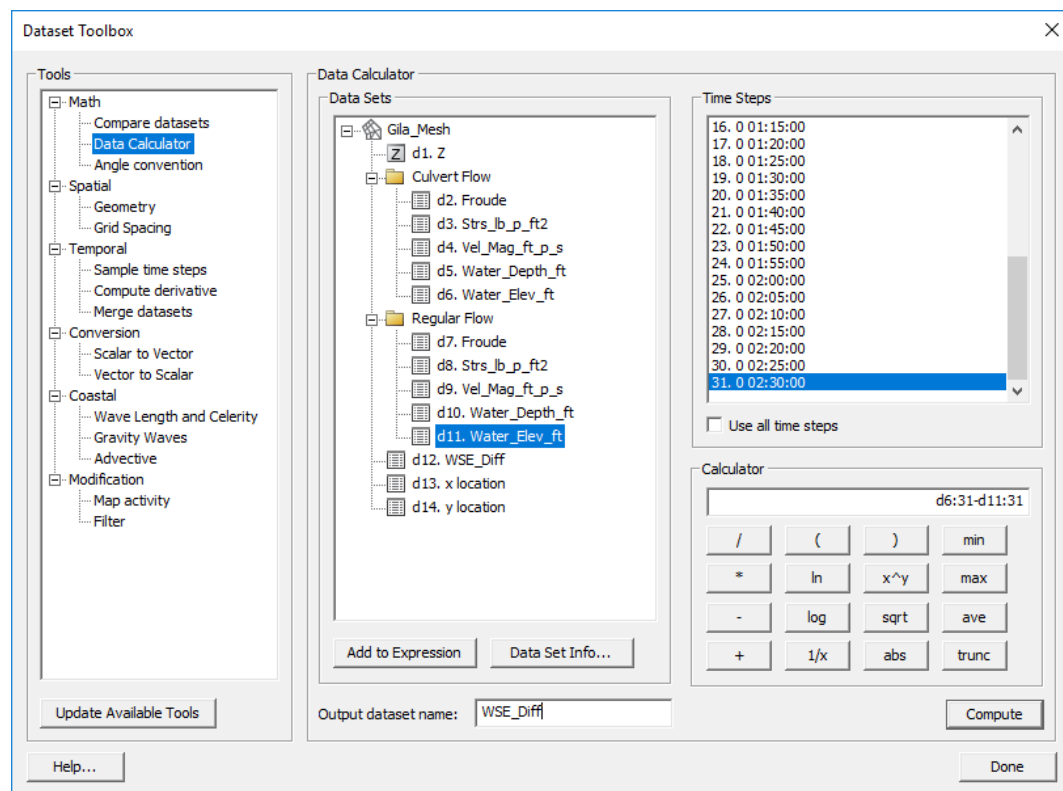

Figure 6 Data Calculator Expression
10. Specify the name of the dataset as “WSE_Diff” in the *Output dataset name* box. The window should look like Figure 6.